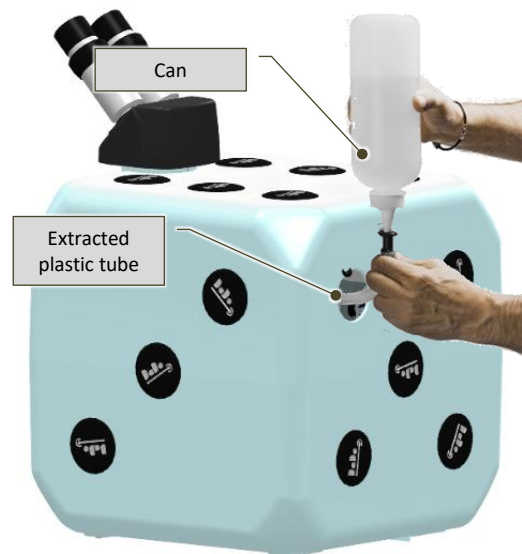

Fig. 6-11 – Coolant insertion
- Insert the can nozzle in the plastic tube of the machine and pour all the liquid into the tube (Fig. 6-11).